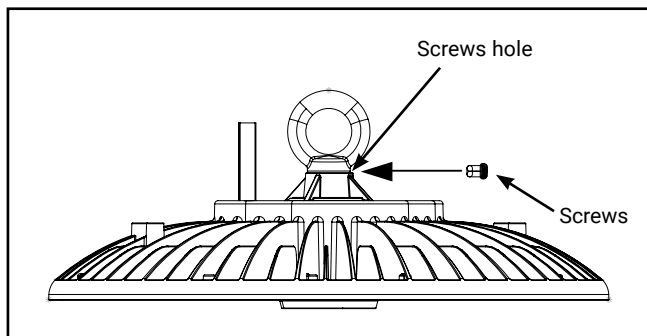

Figure 2.
2. Install and tighten screw. (Figure 2.)